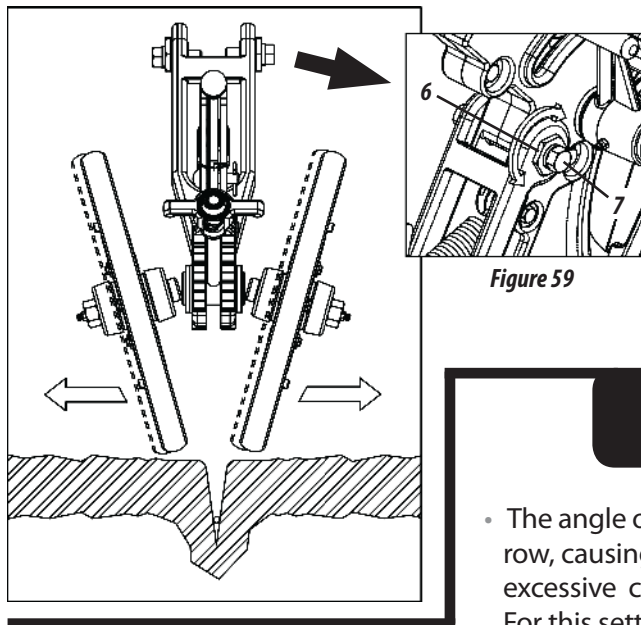

Figure 59
- For horizontal displacement of wheels, they were developed with eccentric sleeves (5). For this setting, proceed as follows:
18- Loosen the bolts (7) and rotate the sleeves (6) with a key to move the wheels and align them with the furrow, placing higher or lower amount of soil laterally on the seed, as shown in Figure 59.